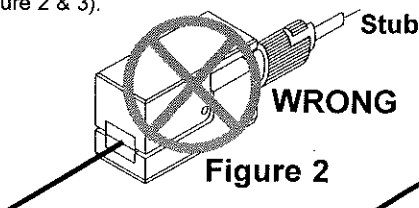

Figure 2
3. Slowly release the pressure foot on the Bare Fiber Adaptor securing the fiber between the foam pads. Connect to apparatus. **CAUTION:** To reduce the possibility of fiber end damage or damaging test equipment, be sure fiber is not protruding from connector face when connecting to apparatus (Figure 2 & 3).